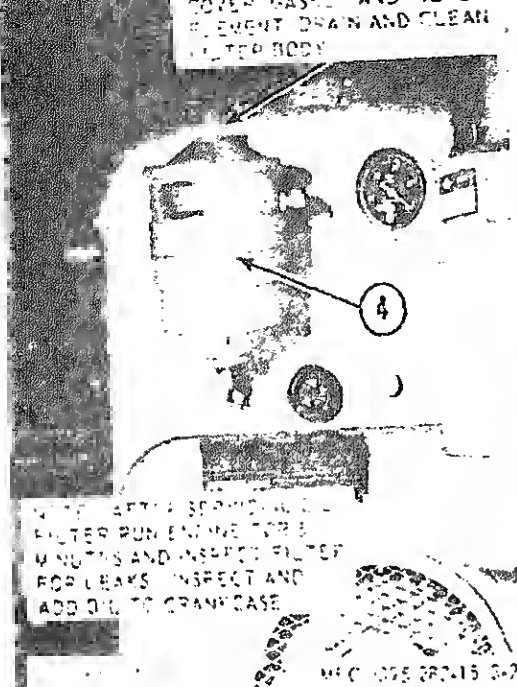

Figure 3-2. Engine Oil Filter.
(1) The crankcase oil level must be checked frequently as oil consumption may increase.
(2) The oil may require changing more frequently than usual because contamination will increase under cold weather operating conditions.
f. Engine Oil Filter. Service the oil cleaner as illustrated in figure 3-2.